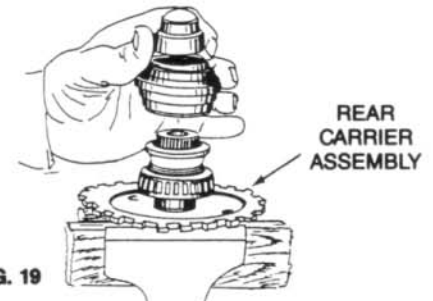

FIG. 19
1. Place the old cone you previously removed, upside down over the new cone. Then place the **CUP AND CONE DRIVER PLUG**, and the **DEAD BLOW DRIVER PLUG** over the old cone and drive into position. (Fig. 19)